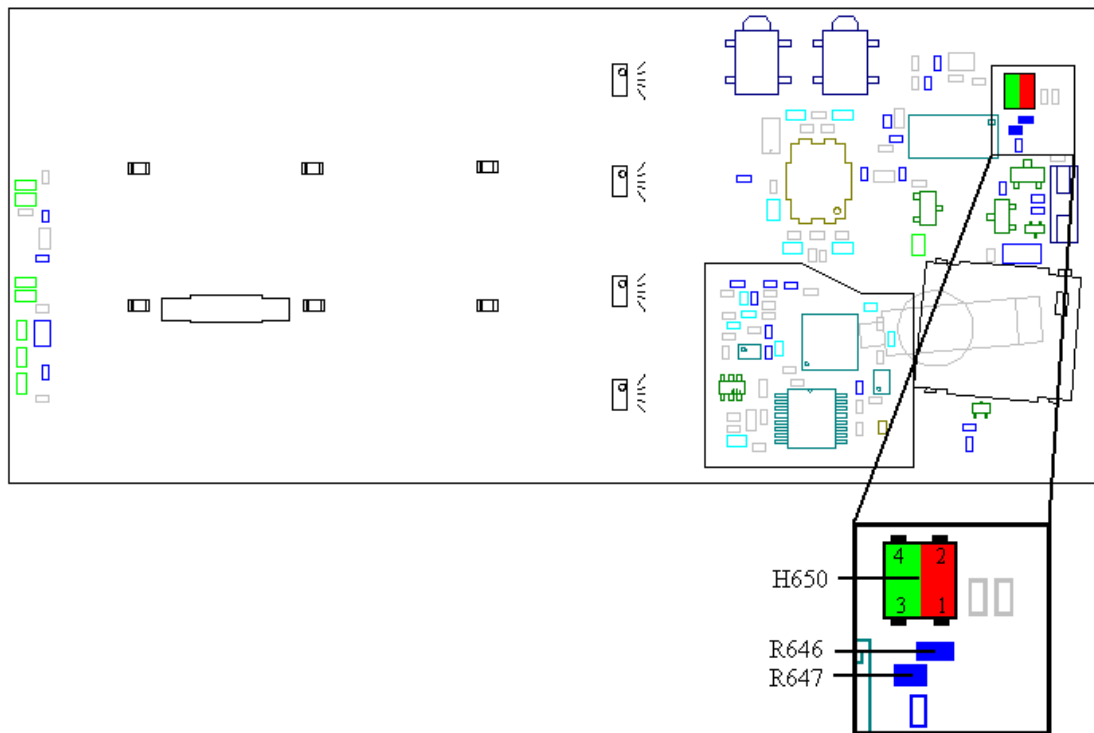

Fig. 9.3
Make sure the double LED (H650, fig. 9.3) is correctly soldered.
* If that doesn't help, replace R646 (class A, fig. 9.3).
- * If that doesn't help, replace R647 (class A, fig. 9.3).